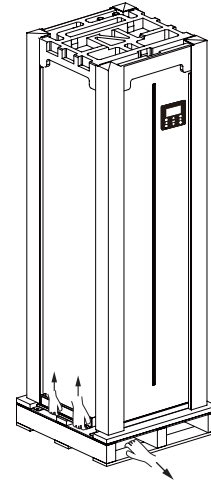

Fig.2-4
- Lift and move carefully upwards the unit, while removing the wooden base (Refer to Fig. 2-4).